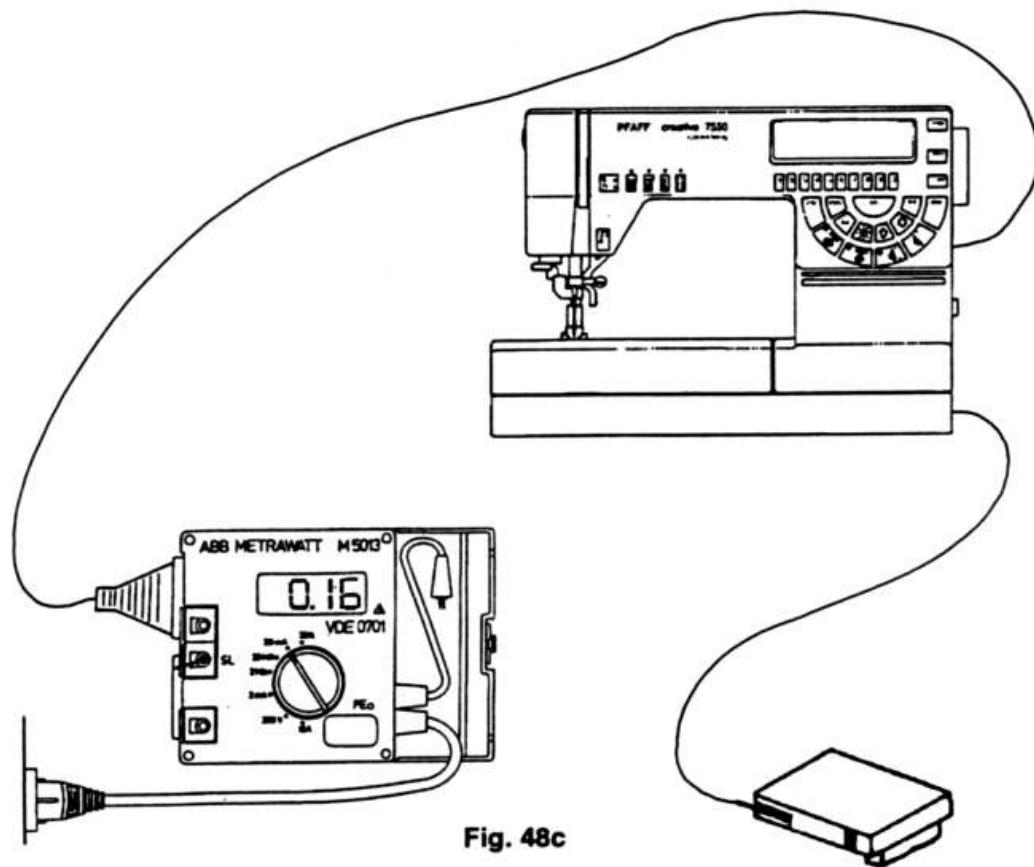

Fig. 48c
- Set knob for measuring range at "20 mA" (fig. 48c).